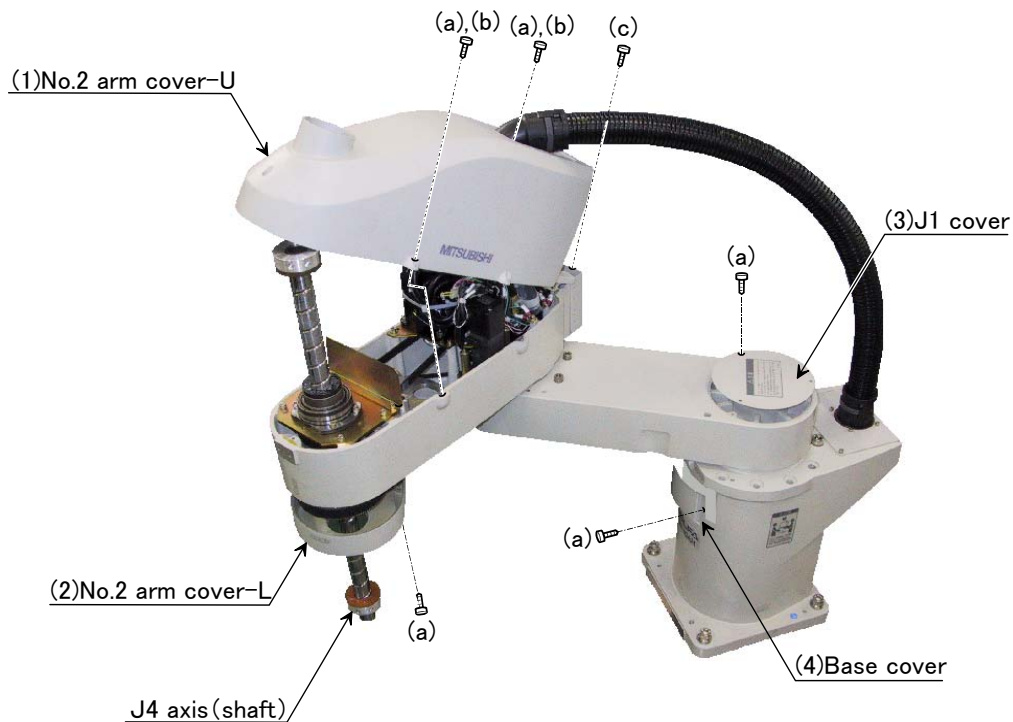

Fig.5-3 : Installing/removing the cover
- (1) Referring to Fig. 5-3, remove the covers.
- (2) The names of the covers are given in Table 5-3, and a list of the cover installation screws is given in Table 5-4.
- (3) Lower the J4 axis (shaft) using jog operations before removing the No.2 arm cover-U.
- (4) When reattaching the covers after a maintenance inspection, proceed in the reverse order of their removal.
- 2) Refer to Fig. 5-3, and remove the No.2 arm cover-U.